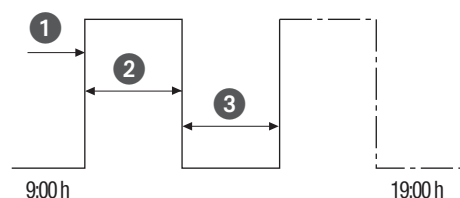

Fig. 32: Cycle switching
- (Fig. 32/①) Start time
- (Fig. 32/②) Period ON = switching ON
- (Fig. 32/③) Period OFF = switching OFF